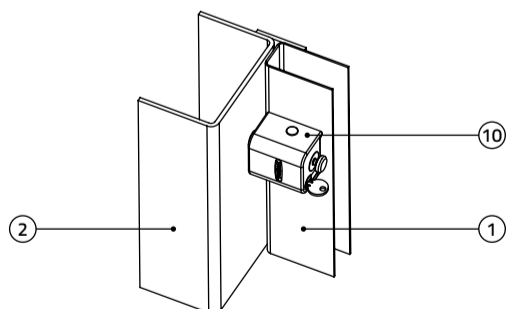

Figure 6
Now, install X SAFETY BOX (10) to the base (3). See Figure 6.